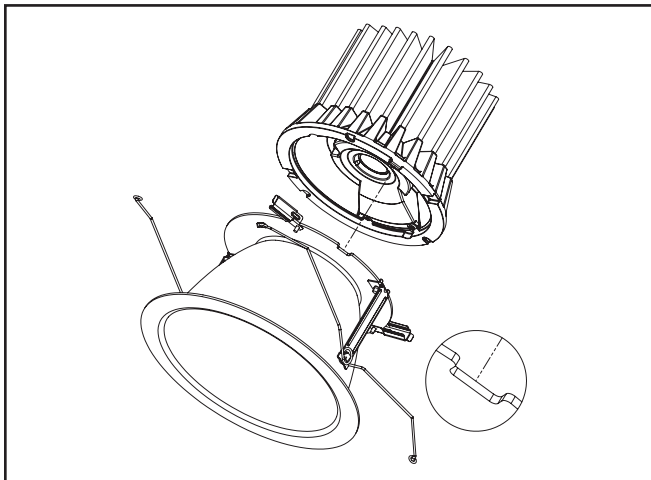

Figure 6.
2. Insert LED engine on to trim assembly. Align post on LED engine with slot on trim assembly (Figure 6).